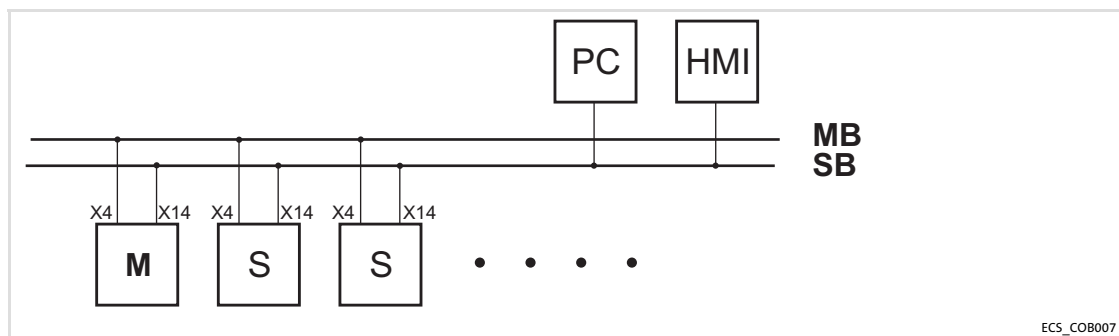

Fig.5-15 MotionBus (CAN) with controller as master
- In Fig.5-15 the function of the master is enabled by a controller that is assigned to the master.